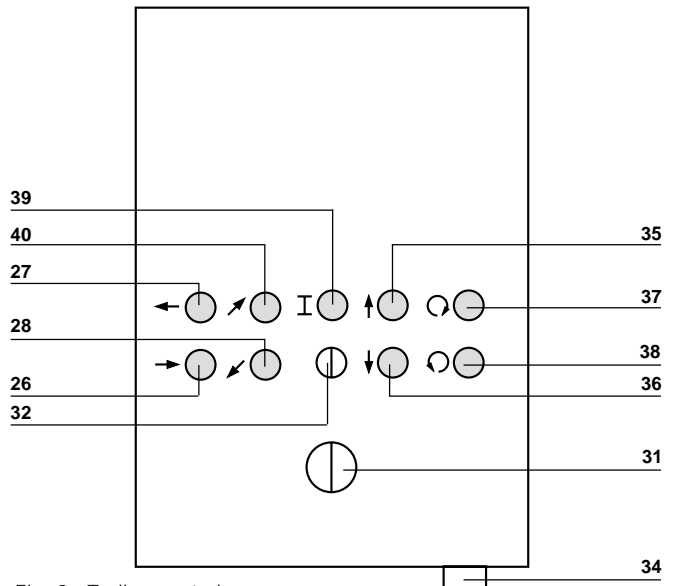

Fig. 9 - Trolley control
- 1 control panel (Fig. 9) on the trolley for back-up operations in the event of failure of the main control panel.